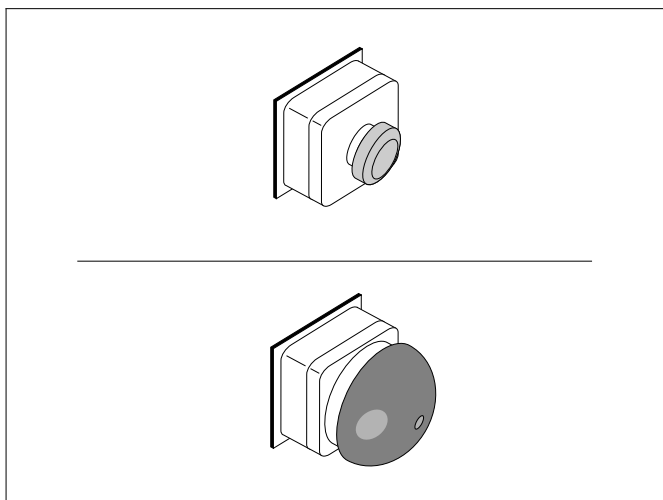

fig. 8 Connecting the emergency stop switch
4. Connect the connecting cable in the switch box. See fig. 8.